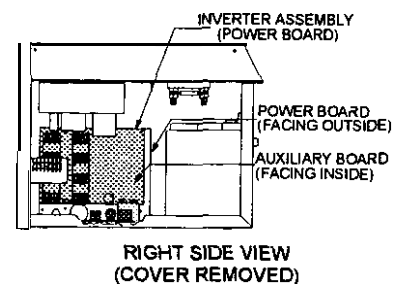

Figure 7
- 301-1. Find the power board-auxiliary board assembly at the bottom of the unit on the right side. (See Figure 7.)